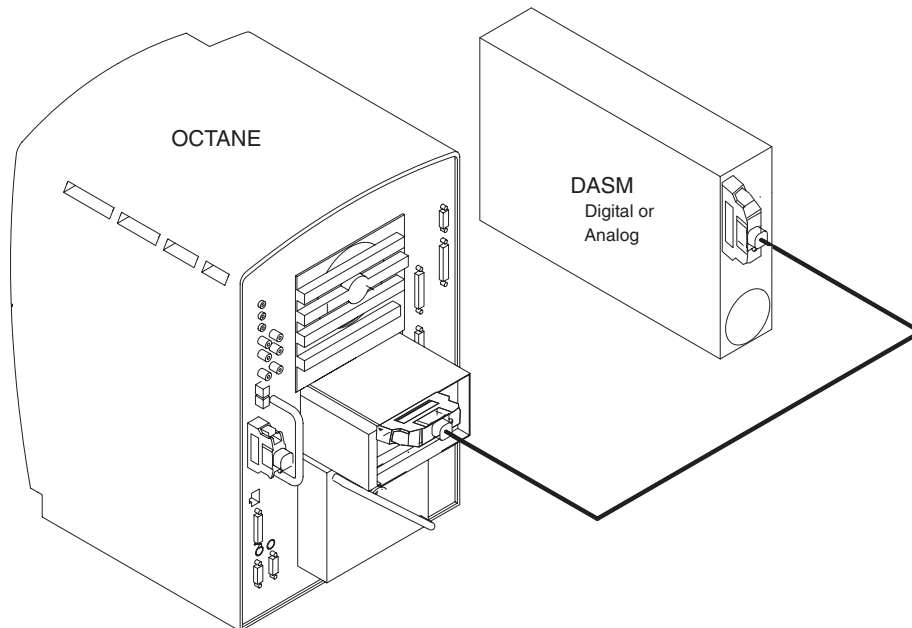

Figure 10-6 SCSI Cable Configuration with DASM
- 5.) Refer to Figure 10-6. Attach the SCSI cable supplied with DASM kit to the back of the DASM.